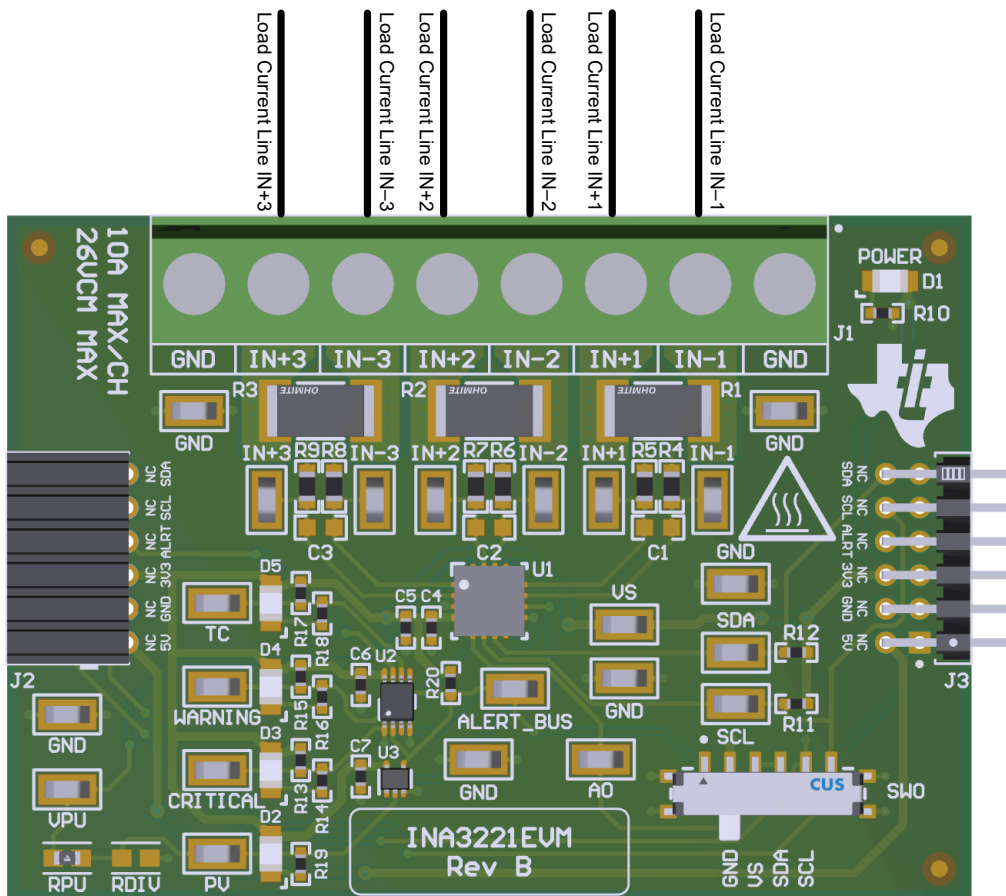

Figure 2-4. IN+ and IN- Wiring for 10A or Less
- a. Solder a 2512 resistor across the pads of R1, R2 or R3 that connects the IN+ and IN- inputs as shown in Figure 2-4.